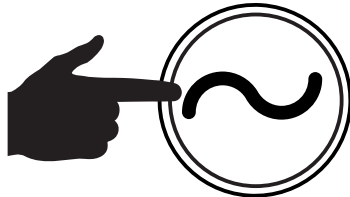

Figure 47. Contactor Close Button (Manual Mode)
16. Press the contactor **CLOSE** button (Figure 47).